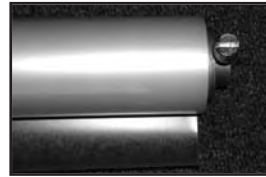

Figure 1
2. To load the top film, insert 1" core as shown on Figure 1 (Note the direction of the film wound)